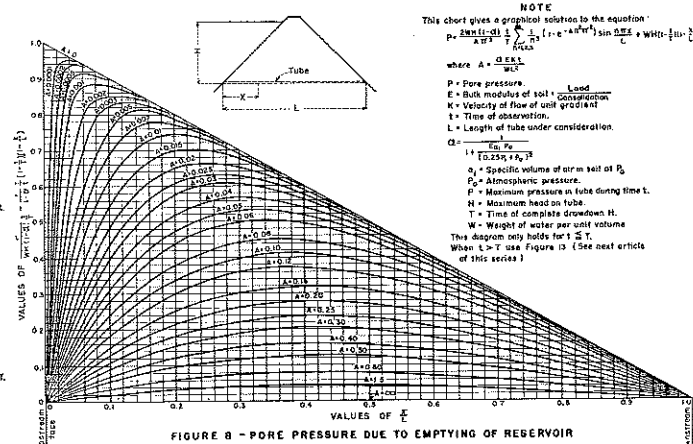

FIGURE 8 - PORE PRESSURE DUE TO EMPTYING OF RESERVOIR
As the reservoir level is gradually lowered, the pore pressures installed in the dam during the full-reservoir period will, of course, gradually decrease. This is due to two effects; namely, (1) percolation out of the dam as the hydrostatic head on the upstream face decreases, and (2) expansion of the entire soil mass, especially in the upstream regions, due to the decrease in total normal load on the upstream face. Coupled with these effects must now be considered the expansion of the entrapped air in the pores or voids of the soil which tends to maintain the pore pressures. It is readily understood that the pressures at any time will be functions of the physical properties of the soil in connection with the rate of draw-down. In figure 8 is plotted a solution applicable to this case.¹ It takes into consideration all of the above-mentioned effects and enables the determination of the pore pressures when the rate of draw-down and α and αEK are known.